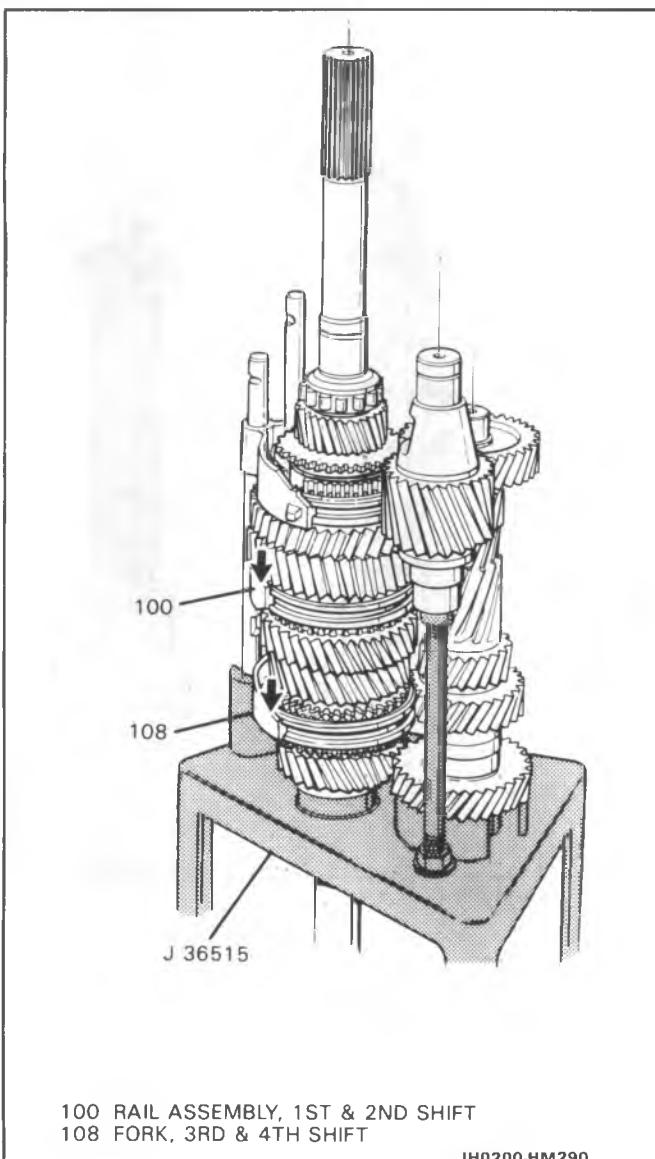

Figure 73 Locking Up Transmission
- 3. J 36515-12 onto countershaft (53).
- 4. Reverse idler assembly (46) and NEW o-ring (52).
- 5. Bearing assembly (outer) race (37) and ball bearing (outer) race (38).
- 6. Install on main shaft assembly (4) or (5)
- 3-4 shift fork (108).
- 1-2 shift rail assembly (100).
- Reverse shift rail assembly (111).
- Lock up transmission by sliding the 3-4 shift fork (108) and 1-2 shift rail assembly downward towards J 36515 (Figure 73).